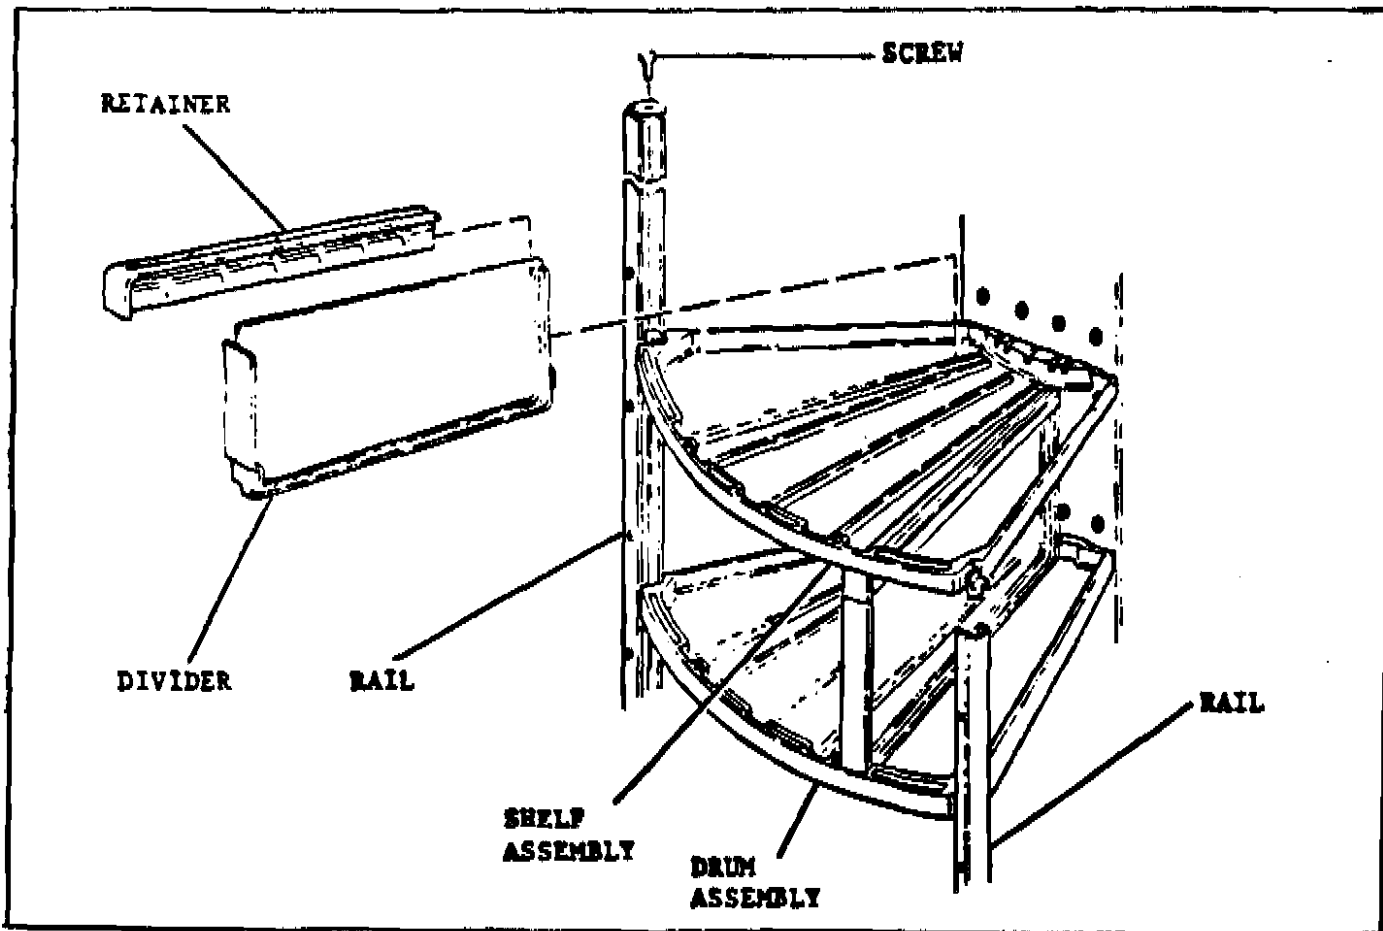

Figure 3-1. Product Dividers and Shelf Assembly Removal and Replacement
A. To remove the product dividers, see Figure 3-1 and do the below:
- A. To remove shelf assembly, see figure 3-1 and do the below: